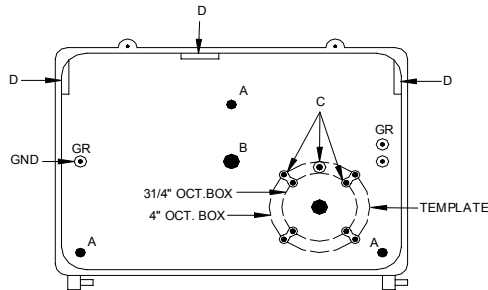

FIG. 2
2. Prepare the backplate for mounting by drilling or knocking out the appropriate holes; (Fig. 2).